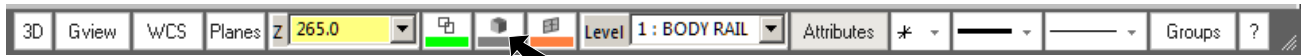

Fig. 18
Step 8. Click Solid color swatch  in Status Bar at bottom of graphics area, **Fig. 18**. Key-in **94** for orange color number and press ENTER.